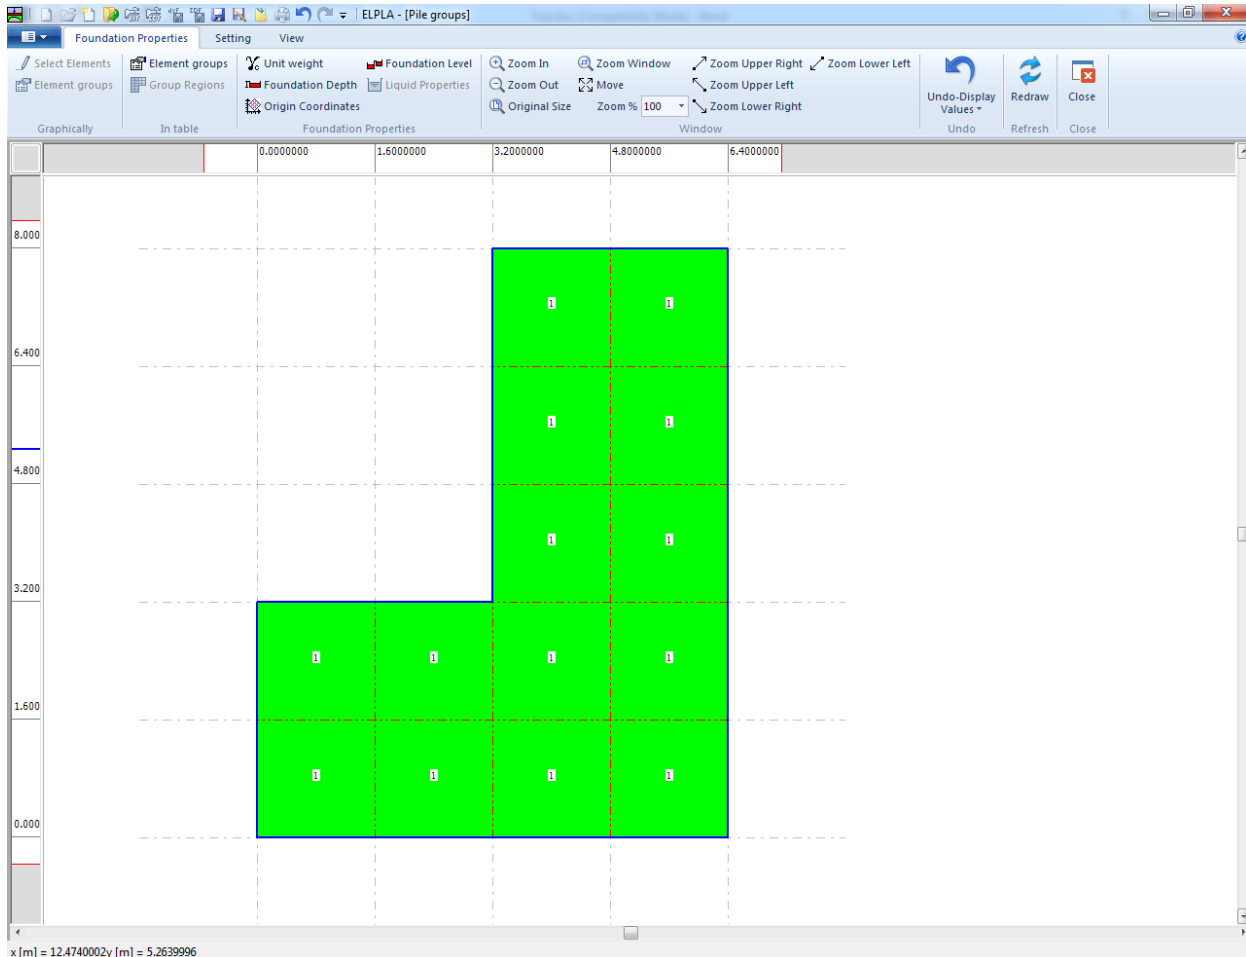
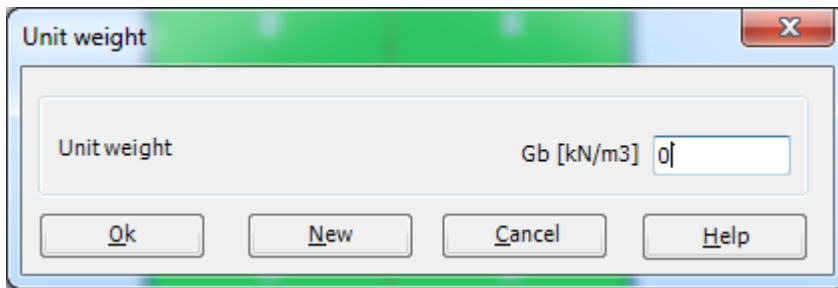

Figure 11.28 "Foundation Properties" Window
Figure 11.29 "Unit weight of the foundation" dialog box
To define the foundation properties, choose "Foundation Properties" command from "Data" Tab. The following Window in Figure 11.28 appears with default foundation properties. In the current example, it is required to define only the unit weight of the foundation. Any other data corresponding to foundation properties in the program menus are not required. Therefore, the user can take these data from the default foundation properties.
- Choose "Unit weight" command from "Foundation Properties" menu in the window of Figure 11.28. The following dialog box in Figure 11.29 with a default unit weight of 25 [kN/m³] appears. Type 0 to neglect the foundation weight in the edit box "Unit weight of the foundation"
- Choose "Save" command from "File" menu in Figure 11.28 to save the foundation properties